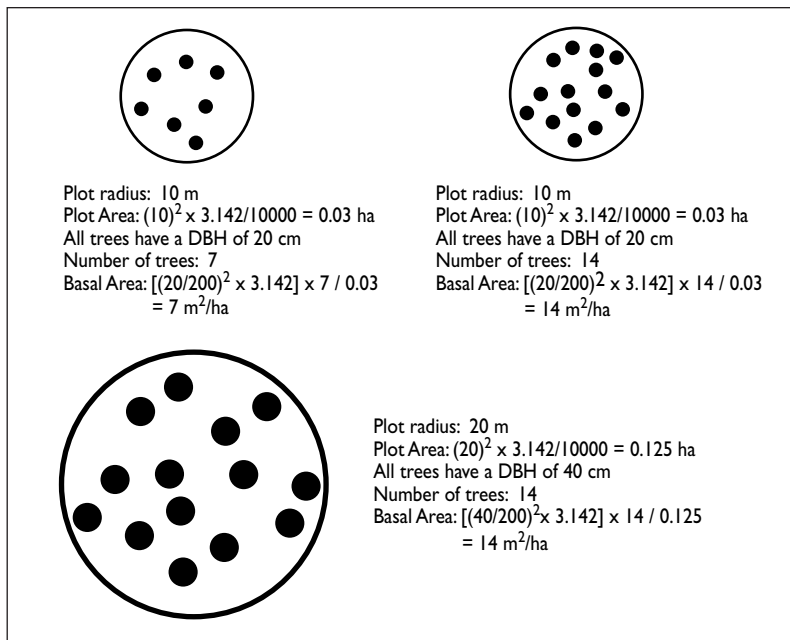

FIG 13.
1. Calculate the basal areas of the following hypothetical plots (Figure 13) that contain trees of equal diameter using the formula presented above